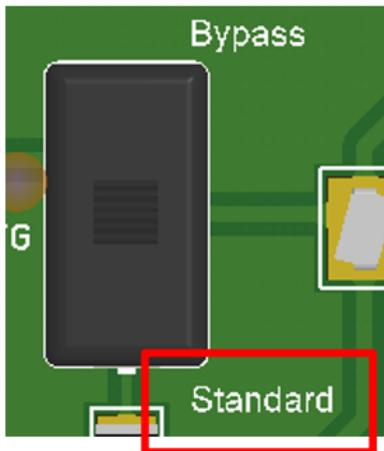

Figure 15. Bypass vs Standard = 'Standard'
- Set this switch to “Standard” (*the “Bypass” setting is for designs that did not use TI’s programming board for the solution*) as shown in Figure 15